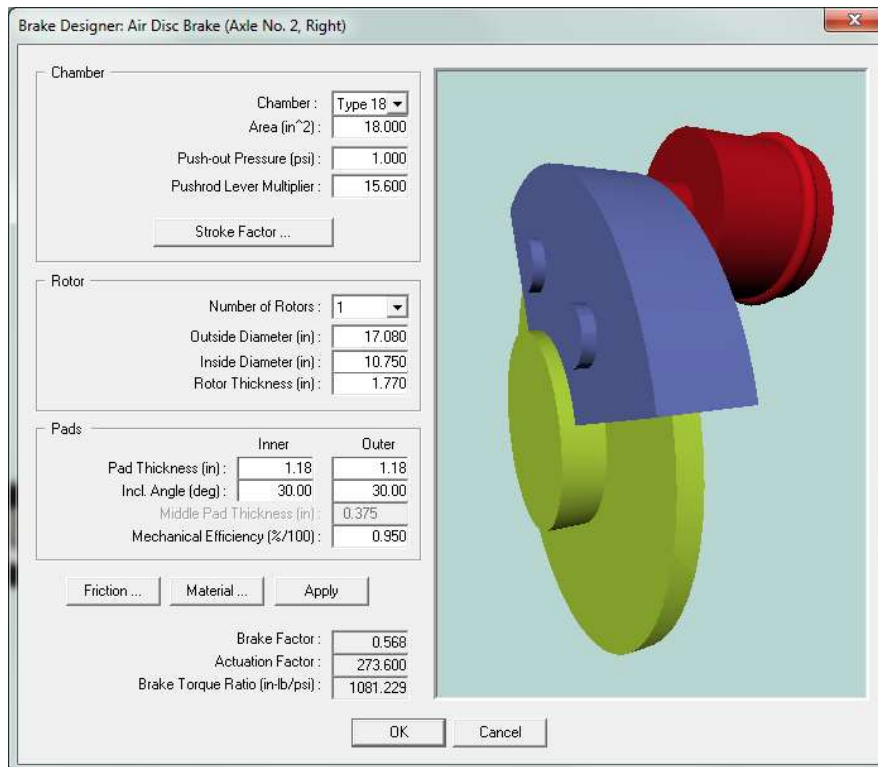

Figure 5 - New Brake Designer tool for air disc brakes used on heavy trucks..
- **Disc Brakes for Heavy Trucks** - The Brake Designer has been extended to directly support air disc brakes used on heavy trucks (see Figure 5).